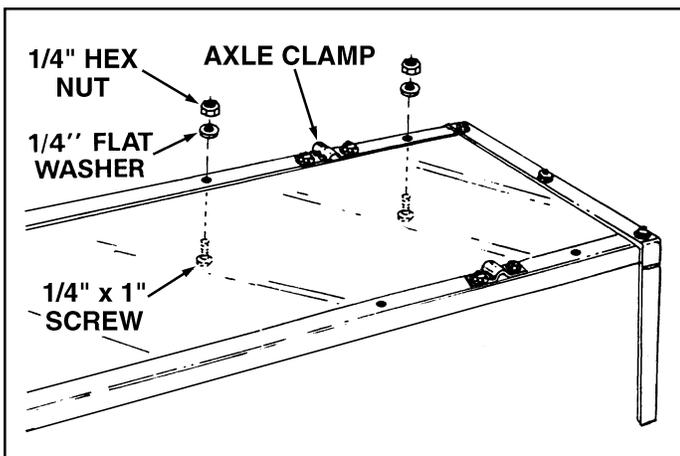

FIGURE 4
- Assemble four $1/4"$ x $1"$ screws, flat washers and hex nuts to the side angles and bottom panel using the holes on each side of the axle clamps. **Tighten the four nuts.** See figure 4.